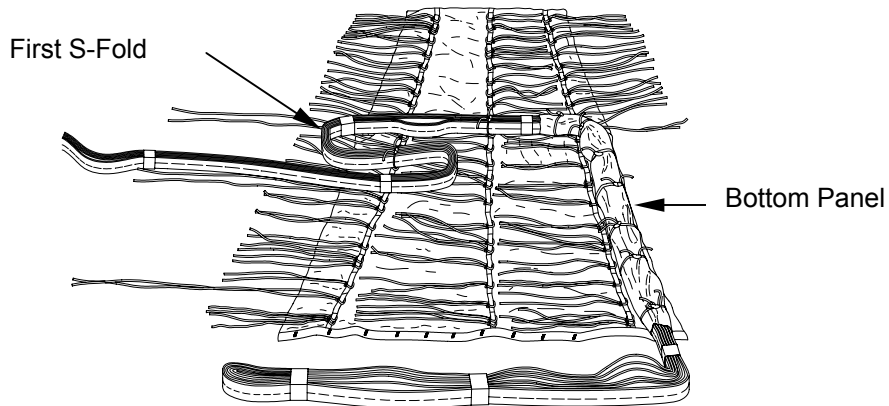

Figure 6. First S-Fold of Extraction Line.
- d. Beginning at upper left corner of bottom panel, make first S-fold/stow of extraction line and secure with previously installed type I, 1/4-inch cotton webbing (figure 6).